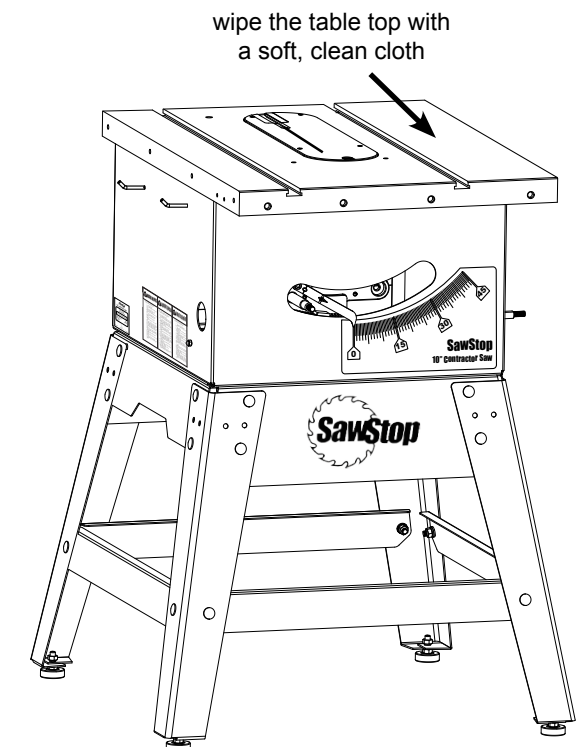

Fig. 13
- Remove the plastic covering from the cast iron table top and remove the yellow label from the top of the table insert. Wipe the oil off the table top with a soft, clean cloth (see Fig. 13). The table top is shipped with a coating of oil to prevent the cast iron from rusting.